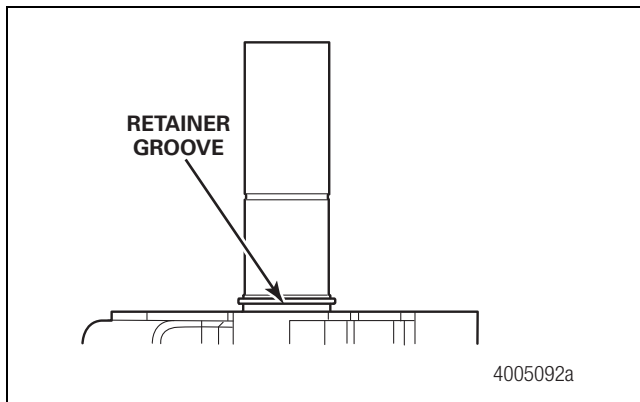
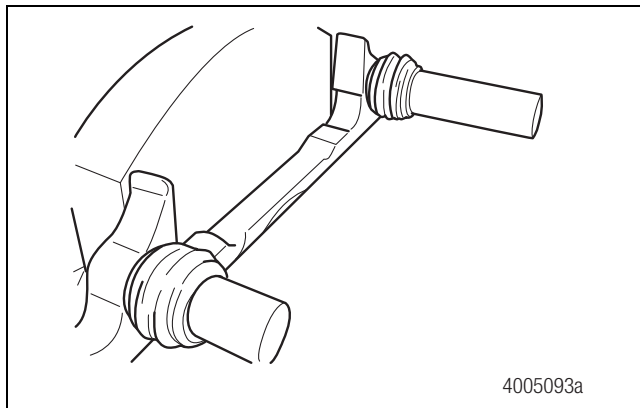

Figure 5.47
Figure 5.48
2. Slide the new slide pin boots over the slide pins. Verify that the slide pin boot bead is in the slide pin retainer groove. Figure 5.47 and Figure 5.48.